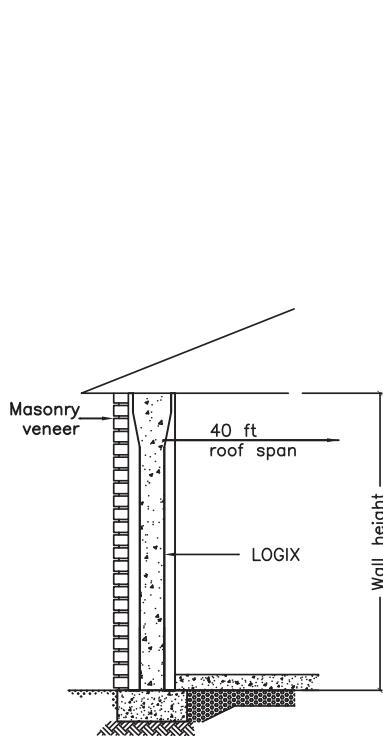

Fig 3A
- One storey LOGIX supporting wood roof frame (Fig. 3A)
The above-grade tables shall be used in conjunction with the notes listed below, the building limitations noted in the "Reinforcement Tables", "Helix TSMR Tables - Alternative to Rebar Reinforcement Tables" section, and Figures 3A to 3B, which form the basis of this table.